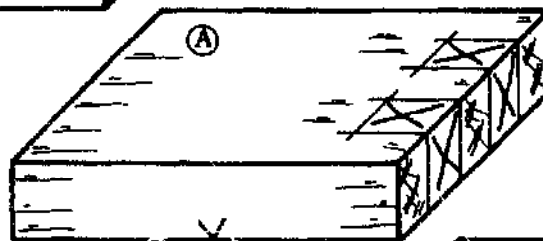

Fig. 10
- Square the sides of the slots down both sides (Fig. 10).
- Mark the waste with small crosses (Fig. 10).